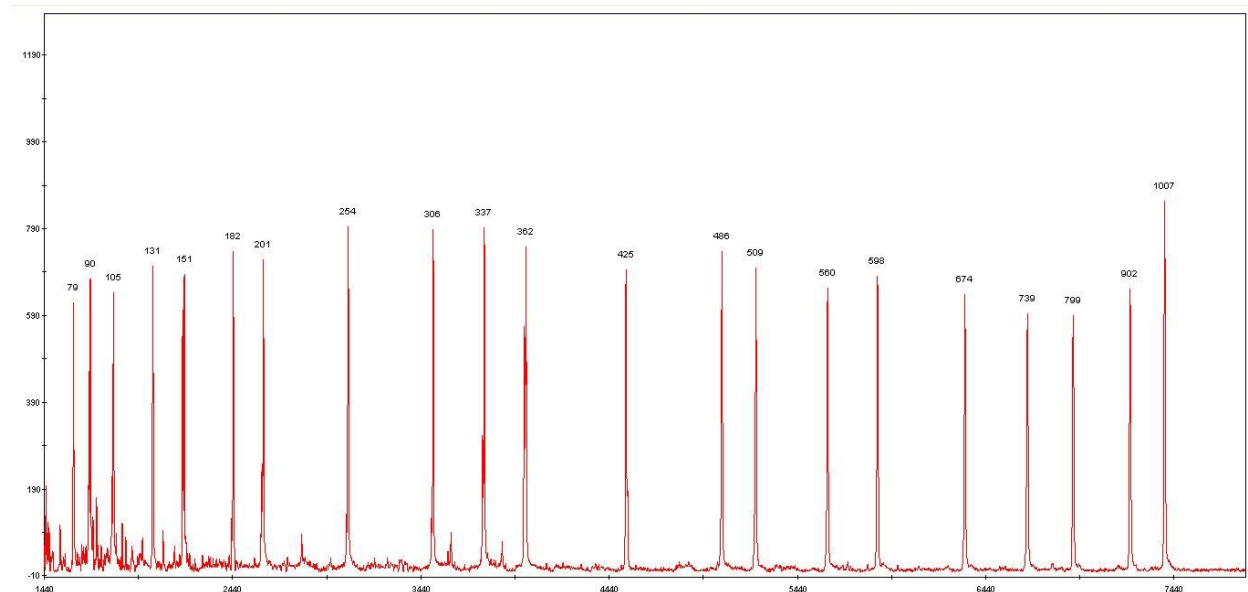

Figure 4. ROX Ladder Peak Identification; representative results using the Applied Biosystems® 3500 Genetic Analyzer
- a. If necessary, zoom between 150–850 bp (x-axis) and 0–2000 RFU (y-axis). All 21 peaks (79–1007 bp) should be visible with ≥ 500 RFU at each peak (example in **Figure 4**).